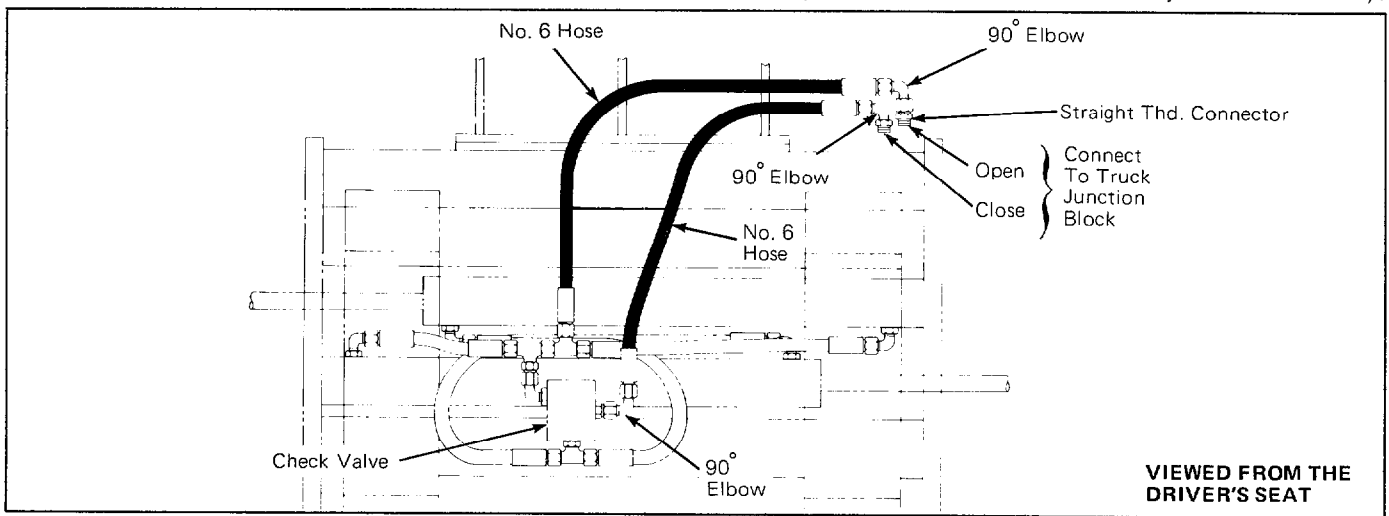

Figure 1. Plumbing Diagram for C2B Basic Clamp (Installation Kit C-658372)
1. Install the hydraulic lines to the **junction block** using the correct Cascade Attachment Installation Kit (C-658372 for C2B Basic Clamp; C-658373 for all other Basic Clamps) OR use hoses and fittings as shown in Figures 1 and 2.
4. Connect the hoses to the check valve. See Figure 1 or 2.